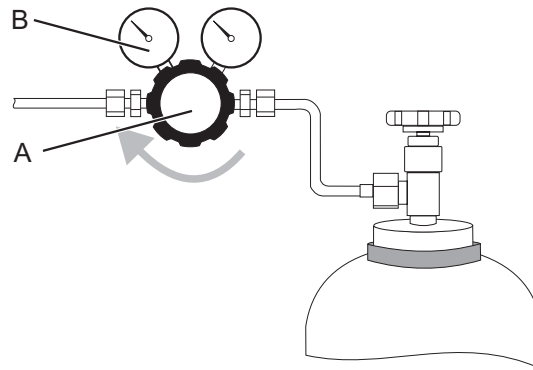

Figure 28: Setting pressure regulator to required pressure
4. Turn the valve on the premix pressure regulator (see Figure 28, A) clockwise, according to the manufacturers instructions, until the pressure gauge (B) indicates the required pressure (see Section 4.7.4 on page 61).